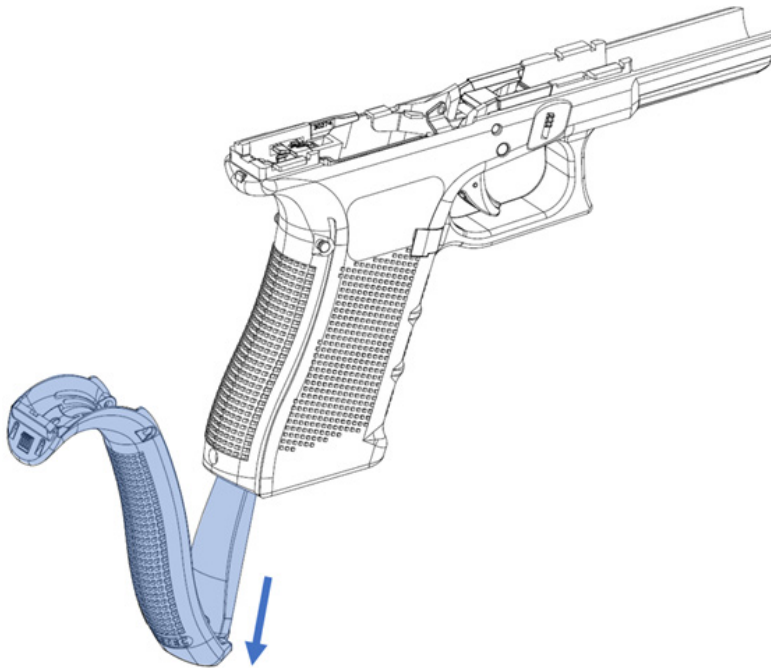

Figure 112: Extract direction from the Frame.
4. Slide the Backstrap down until its fully removed from the Frame. Store the Backstrap for later reassembly (Figure 112).